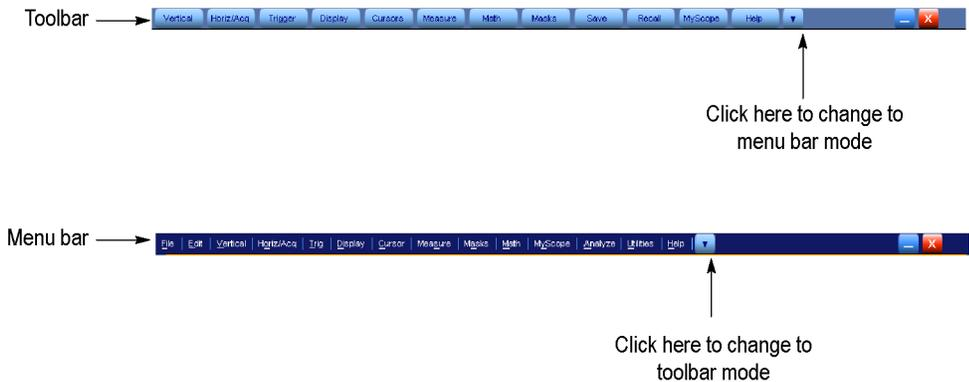

Figure 1: Toolbar and menu bar (DPO7000C models shown)
- The term "toolbar" refers to a row of buttons at the top of the display. The term "menu bar" refers to a row of menus at the top of the display. You can switch between toolbar and menu bar operating modes by using the menu at the top right of the toolbar or menu bar. (See Figure 1 on page 112.)